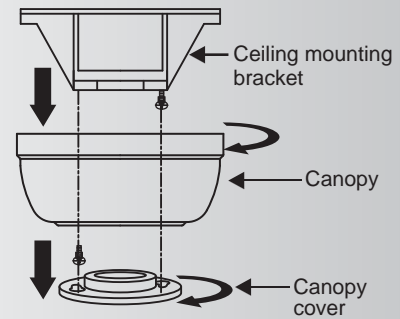

Fig. 5
Step 1. Remove the decorative canopy bottom cover from the canopy by turning the cover counterclockwise. (Fig. 5)
Step 2. Remove the ceiling mounting bracket from the canopy by removing (and save) one of the two screws. Loosen the remaining screw by a half turn. (Fig. 5)